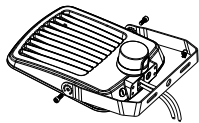

Figure 1
Step 1: First install two bigscrews. (Figure 1)